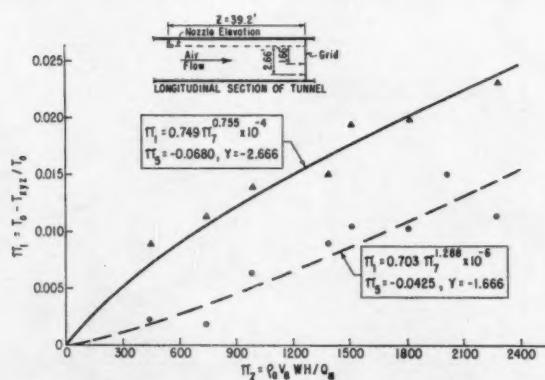
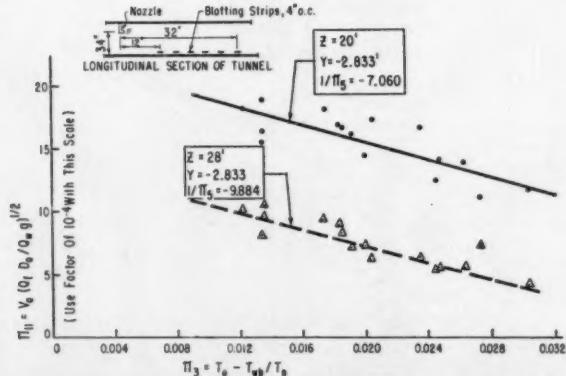

Fig. 4 Plot of  $\pi_1$  vs.  $\pi_7$  for two different vertical positions in the airstream
Fig. 7 Plot of  $\pi_{11}$  vs.  $\pi_3$  for two values of  $1/\pi_s$
A complete listing of the variables and pi terms or dimensionless parameters considered in the study is given in reference 12. Variables used in this paper are shown in Table 1 and the dimensionless parameters formed from these variables are shown in Figs. 4, 5, 6, and 7. In studies concerned with temperature reduction,  $\pi_1$  (Fig. 4) was considered the dependent quantity. In studies dealing with drop fallout,  $\pi_{11}$  (Fig. 7) was considered the dependent quantity.
The functional relationship that existed between  $\pi_1 = T_{xyz}/T_o$  and certain of the other pi terms was found to depend largely upon the point where  $T_{xyz}$  was determined. Increasing the air to water ratio by increasing air velocity did not necessarily reduce  $\pi_1$ . Fig. 4 shows a plot of  $\pi_1$  vs  $\pi_7 = \rho_a V_a W H / Q_w$  wherein  $\pi_7$  was changed by changing the air velocity. Air velocity was the only variable in  $\pi_7$  that could be changed without affecting the constancy of some of the other pi terms. The data used to plot Fig. 4 were taken at a point 39.2 ft downstream from the nozzle and for the two positions below the nozzle indicated. In both positions, the cooling effect increased as  $\pi_7$  increased. The apparent reason for this was a vertical shifting of the cool air and fog as discussed later. The cooling effect was less for the position closest to the nozzle vertically as indicated by the dashed line. For a vertical position even with or above the nozzle there was virtually no temperature reduction over the full range of  $\pi_7$  used.
The data used to plot the curves in Fig. 4 appeared to fit a straight line on log-log paper. The constants used in the equations for the curves in Fig. 4 were determined by a regression analysis. The equations obtained may not be valid beyond the range of  $\pi_7$  shown since rationalization leads to the conclusion that the curves must have an upper limit.
Fig. 7 shows a plot of  $\pi_{11}$  vs  $\pi_3$  for two values of  $Z/Y$ . The value of  $Y$  was constant at 2.833 ft, and the two lines shown are for  $Z$  equal to 20 and 28 ft as indicated. The lines were fitted to the data by a regression analysis. If the straight-line relationship prevailed at higher values of  $\pi_3$ , it is unlikely that the intercept on the  $\pi_3$  axis corresponding to the 20-ft station would be encountered in normal operation of the fogging system. That is, some fallout would occur at a point 20 ft from the nozzle for any expected ambient air condition. At the 28-ft station, it is quite possible that no fallout would occur on hot dry days.
An equation was developed for predicting  $\pi_{11}$  when  $\pi_5$  and  $\pi_3$  are known and the other system parameters are held constant at the values used in Fig. 7 (Table 2). This equation is
The effect of air velocity should be given prime consideration in the design of fog cooling systems. Fig. 4, 5, and 6 have been selected from a more detailed study (12) for purposes of illustration. The equations shown in Fig. 4 are valid for predicting cooling effect only when the conditions in Table 2 corresponding to the figure are met.